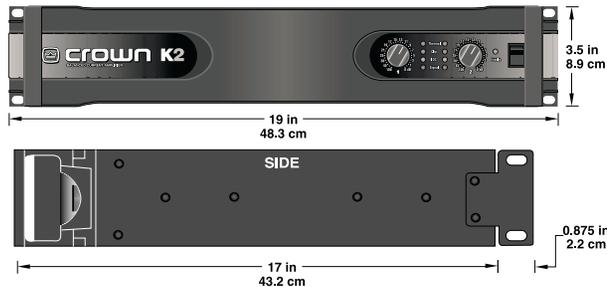

Fig. 2.1
2. **Mount the amplifier.** Your *K-Series* amp is designed to be mounted in a standard, 19-inch (48.3-cm) equipment rack (see Figure 2.1). It has been furnished with a convenient, 2-foot-long AC power cord. To meet system compliance, this cord must be plugged into a local, rack-mounted, commercial grade electrical outlet box. Extension cords are not to be used. The amp has a unique front-panel design which provides exceptional air circulation between *K-Series* amps, which makes it easy to keep your amplifiers cool. (See the section “You Gotta Know When To Kool It!” on page 26 for hints on amplifier cooling.)